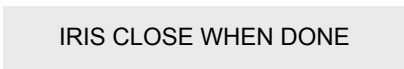

Fig 2
- [6].Press CLOSE to finalize the selection. as left Fig 2.